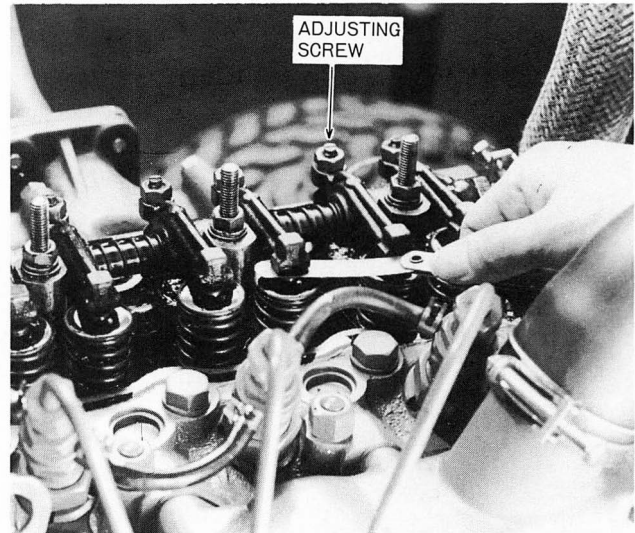

Figure 53 – Checking Valve Clearance
2. With the engine idling, check the clearance of each valve with a feeler gauge, Figure 53.